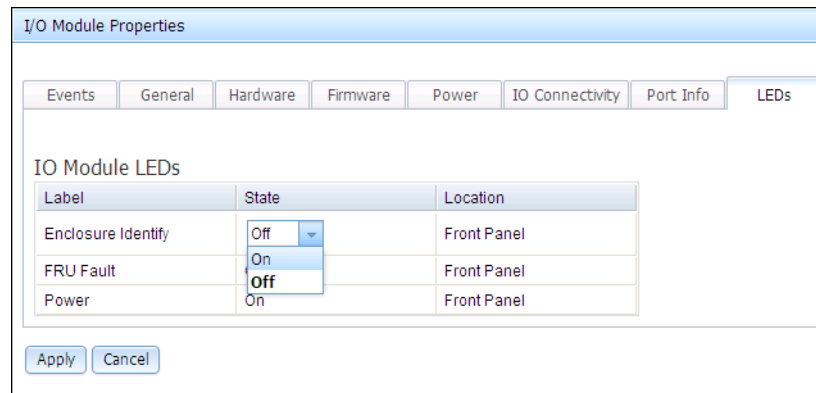

Figure 6-4 Toggle the Identify LED state
- iii. Click the **LEDs** tab to open the window that is shown in Figure 6-4.